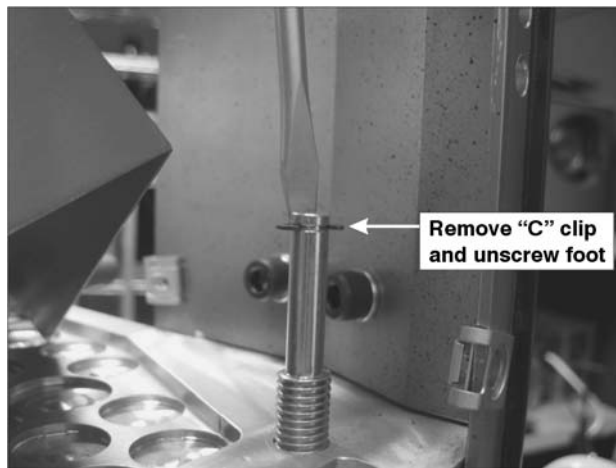

Figure 29. Removing C-Clip from Projector Feet
2. Using a slotted, screw driver, remove the C-clip from each leg. (Figure 29.)